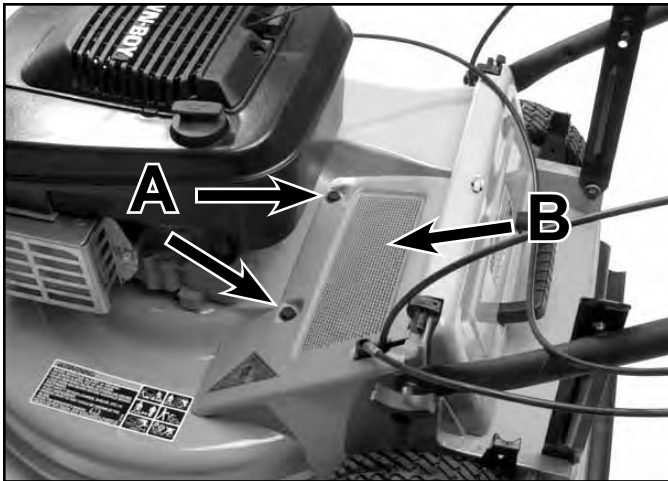

Fig 211
1. Remove the two flanged head self-tapping screws securing the screen panel to the housing and remove the screen panel as shown in Figure 211.